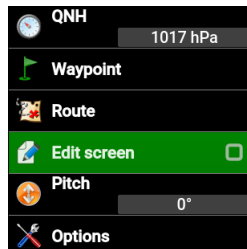

Figure 6.2: Main menu with **Edit screen** option which must be enabled to start editing this screen.
3. Once editing is enabled use the **Pager** button to switch to the screen you want to edit. Then push the knob and select **Edit screen** from the menu, Figure 6.2. Alternatively, long touch on the screen.